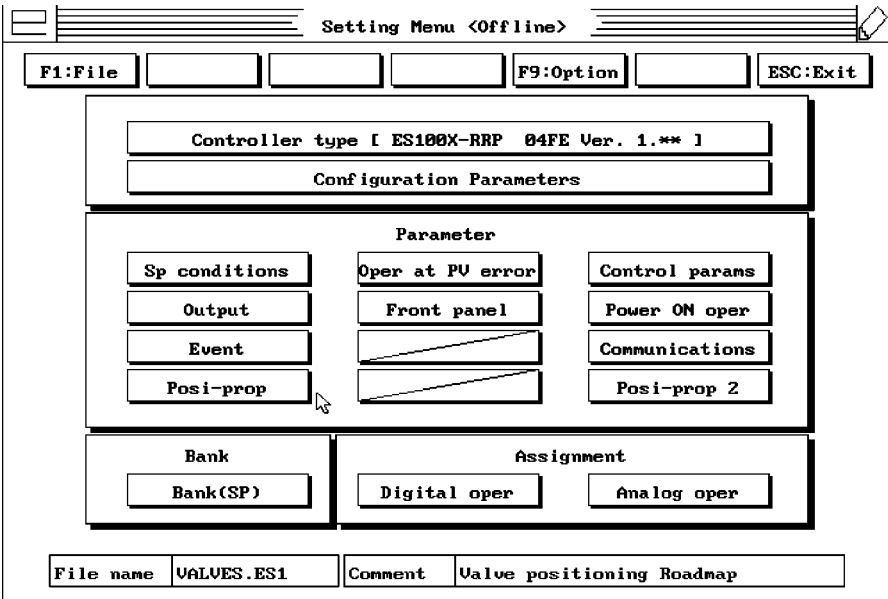

Figure 9
- 1. From the **Setting Menu <Offline>**, select **Posi-prop** (Figure 9).